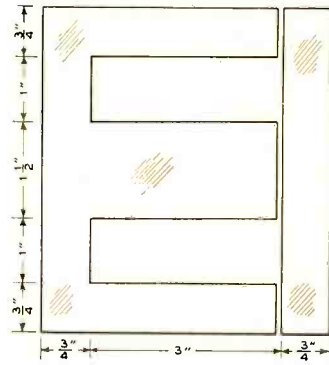

FIGURE 8
Let us carry through the design of two transformers, one of 100 watts audio handling capacity (to modulate 200 watts input to the class-C amplifier), the other of 250 watts audio capacity. Let us suppose that we have E-shaped punchings available of the size and shape shown in figure 8, which we intend to use for the 100-watt transformer and that we propose designing the 250-watt transformer right from "scratch" using core-type laminae. In both cases there are two things to be decided upon before any design can be started—the maximum r.m.s. voltage to be developed by either primary or secondary and the maximum steady d.c. class-C plate current to be used. As a rule the highest r.m.s. voltage will appear across the modulation transformer secondary, especially if zero-bias modulator tubes are used on the primary. If the low- or medium- μ modulator tubes are used with their attendant high plate voltages, the maximum r.m.s. audio voltage will appear across the total primary winding. In special cases where restricted design is desired one may easily determine which winding requires the greater number of turns of wire. The square root of the product of recommended modulator plate to plate load and audio power output equals the r.m.s. audio voltage developed across the primary, while the secondary r.m.s. voltage will be equal to the class-C plate voltage divided by the square root of 2. Thus,
Recalling our two design problems and referring to figure 9, the 100-watt transformer will have a maximum r.m.s. audio voltage of 1000 volts on the secondary N turns and will carry a class-C plate current of .15 ampere. Thus, in equations (12) and (13), $E = 1000$ and $I = .15$. From figure 8 we determine the length of the magnetic path to be $L = 30$ cm. Substituting these values in (12) and (13) we have